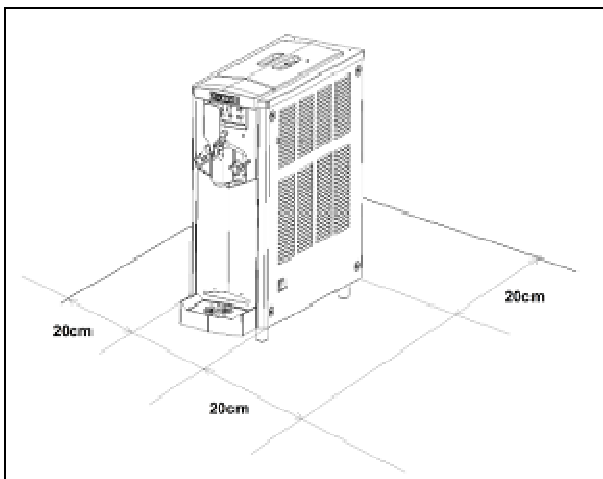

Fig. 24
a) After removing the packaging, **preserve all parts of it for winter storage** and ensure the integrity of the appliance (fig. 24).